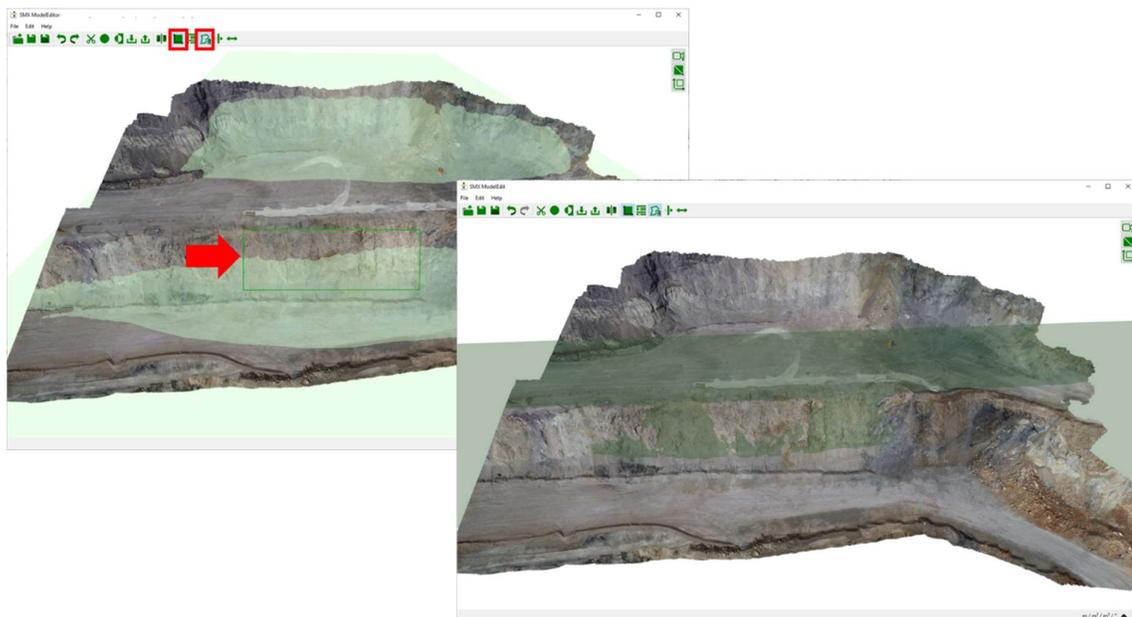

Figure 16: Definition of the Reference Plane: Selection of a polygonal region (left); matching Reference Plane for selected region (right).
2. The *Reference Plane* will be calculated and immediately set after releasing the mouse (see Figure 16).